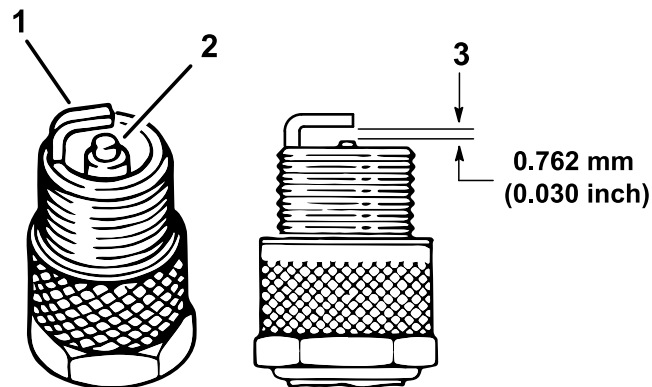

Figure 34
4. Check the condition of the side electrode, center electrode, and center electrode insulator to ensure that there is no damage (Figure 34).
5. Set the air gap between the center and side of the electrodes at 0.762 mm (0.030 inch) as shown in Figure 34.